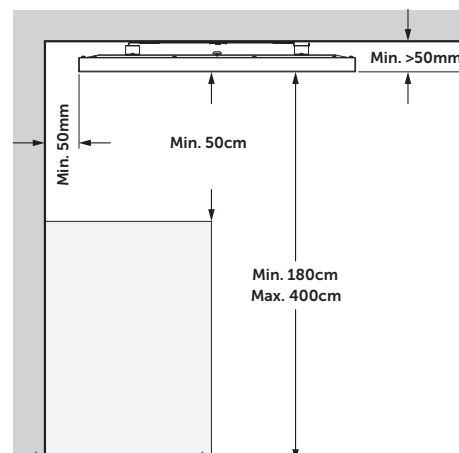

Fig. 1
- Place the panel from above into the suspended ceiling as shown in Fig. 1.